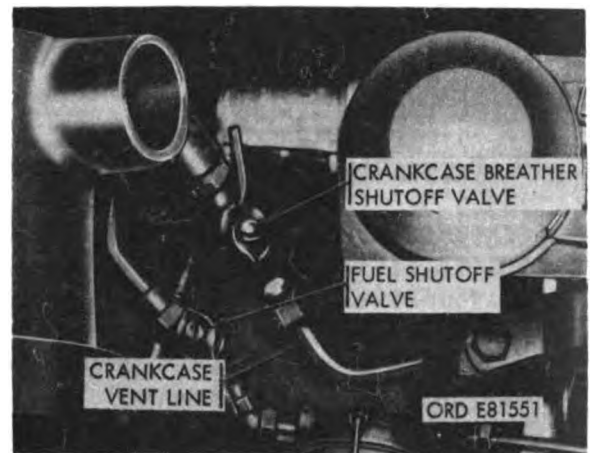

Figure 2-5. Crankcase vent valve disconnected.
l. Disconnect crankcase vent line on left side of engine, on engine side of valve (fig. 2-5).
q. Disconnect fuel line at fuel tank side of shutoff valve (fig. 2-5).